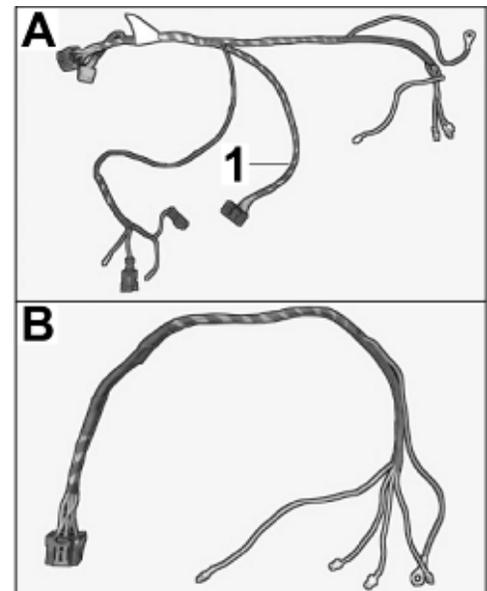

Figure 6
2.3.1 Remove branch for button for electric towbar system (⇒ Figure 6 -1-) and other branch from the RdW version wiring harness.
2.3.2 Complete wire harness USA/Australia version (⇒ Figure 6 -B-).